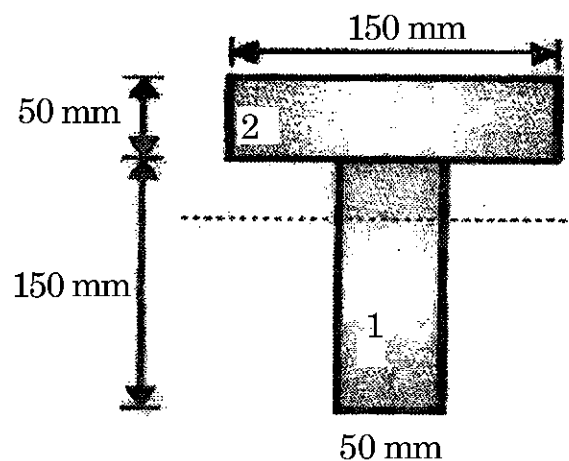

Fig. 7
- (c) Two 50 mm × 150 mm rectangular timber section is connected together as shown in Fig. 7. If sagging B.M. of 4 kN-m is applied to this beam about the horizontal axis :